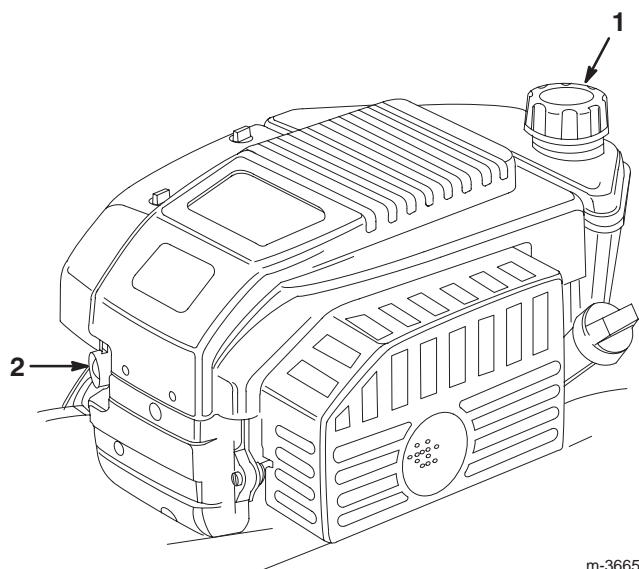

Figure 9
1. Clean around the fuel tank cap (Fig. 9).